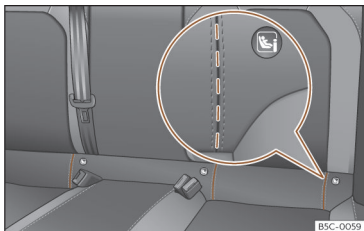

Fig. 27 Rear seat: die cut slots to access the ISOFIX / iSize securing rings.
rings are secured to the seat frame and, in others, they are secured to the rear floor. The “ISOFIX” rings are located between the rear seat backrest and the seat cushioning >>> **Fig. 27**. The Top Tether rings are located on the rear part of the rear seat backrests
- Open the cut-out section behind the marked grooves to access the retaining rings >>> Fig. 27.